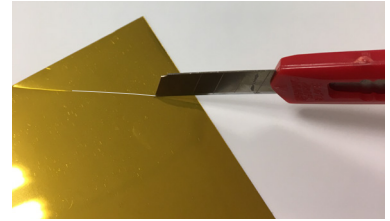

Figure 02
- › Draw a line with the cutter into the protective film, 3 or 4 cm (1.81 or 1.57 in.) from the corner, without cutting the Super Chrome film + liner. (FIG. 02)